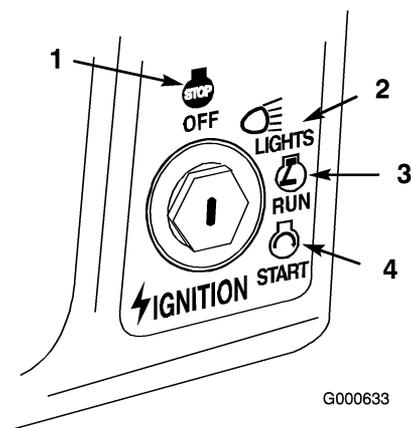

Figure 16
6. Turn the ignition key and hold it in the start position (Figure 16). When the engine starts, release the key.
3. Turn the ignition key to off (Figure 16).